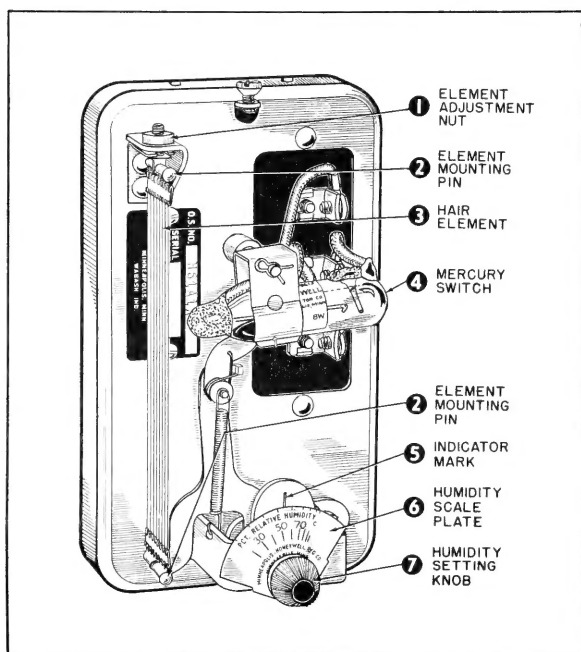

Fig. 3—Type H61 Controller. Type H41A & B are similar except that they have a two-wire mercury switch.
**SETTING**—To set the Humidity Controller it is only necessary to turn the knurled knob (7-Fig. 3) until the indicator mark (5) is opposite the desired percent of relative humidity on the scale (6).